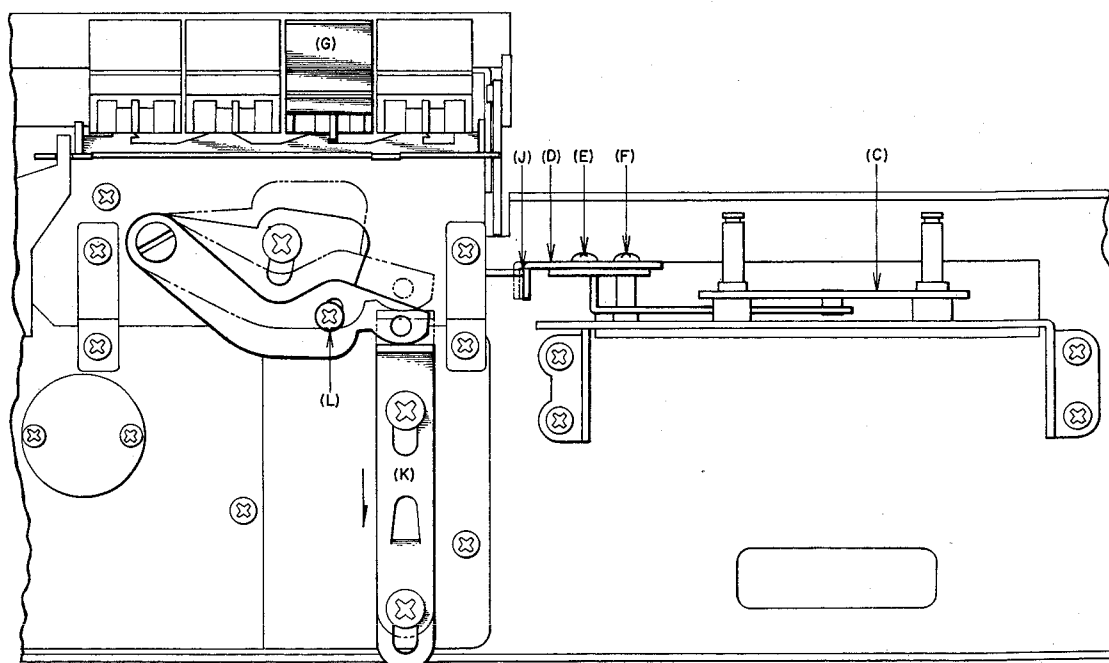

Fig. 10 (B)
(3) ADJUSTMENT OF KEYBOARD SELECTOR KNOBS PROTECTION DEVICE (See Fig. 10 (A) (B) )